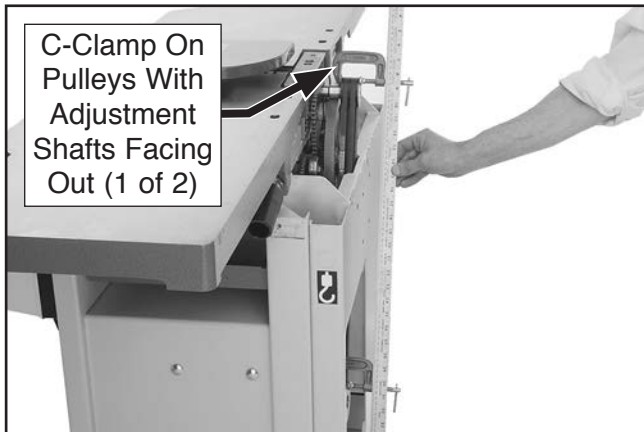

Figure 54. Example of checking belt alignment.
- Place identical 2" C-clamps on each pulley with adjustment shafts facing out. Place straightedge on clamps, as shown in **Figure 54**, and visually check pulley alignment.